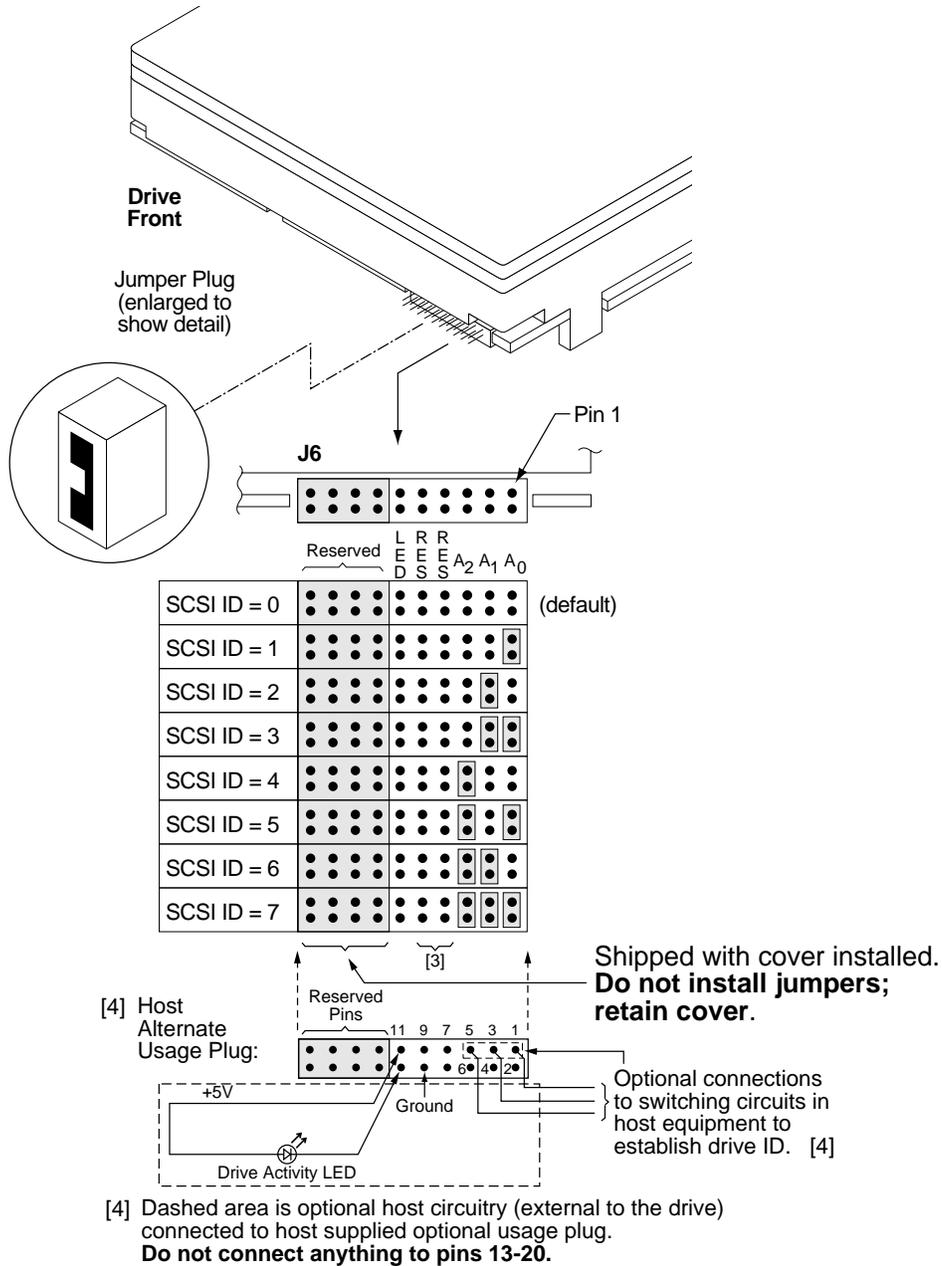
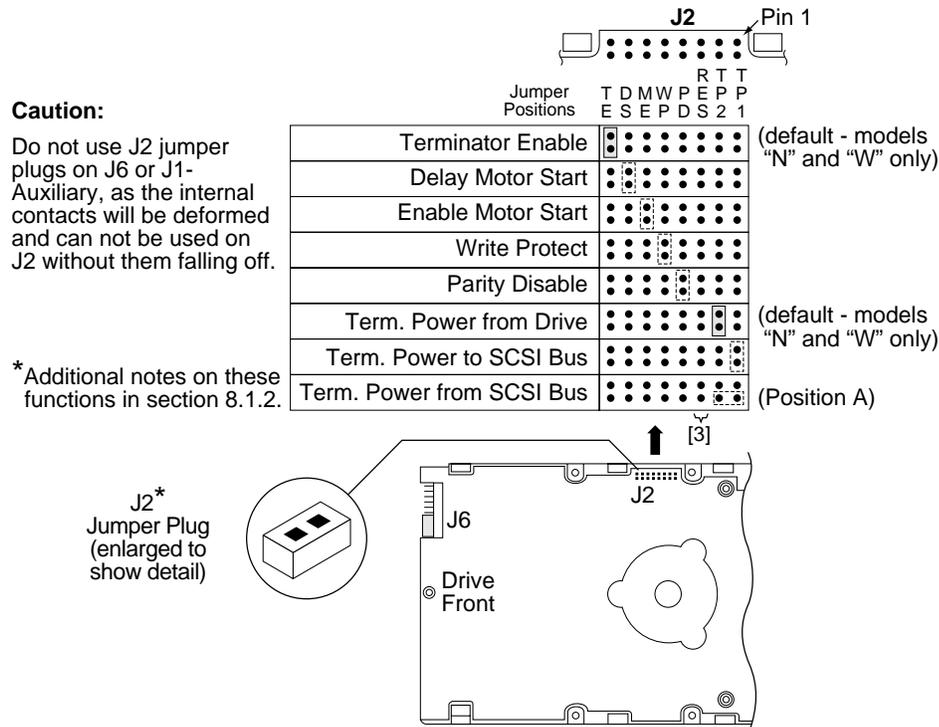

Figure 8. Hawk 4XL family drive ID select header for model "N"
Figure 11. Hawk 4XL family drive option select header for models "N" and "W"
For option jumper locations and definitions refer to Figures 8, 9, 10 and 11. Drive default mode parameters are not normally needed for installation. Refer to Section 9.3.2 for default mode parameters if they are needed.
Figures 8, 9, and 10 show views of the drive ID select jumper connectors. Figure 11 shows the option select jumper connector for all models. Figure 9 shows a rear view of model drives for the purpose of showing J1-auxiliary of the drive. Both J1-auxiliary and J6 have pins for selecting drive ID and for connecting the remote LED cable. Only one or the other should be used, although using both at the same time would not damage the drive. The notes following the figures describe the functions of the various jumper positions on the connectors J2, J1-Auxiliary and J6. Suggested part number for the jumpers used on J2 is Molex 52747-0211(Seagate P/N 77679052). Suggested part number for the jumpers used on J1-Auxiliary and J6 are Method Electronics 861M-202-70 (Seagate part number 15481851). A bag with the two jumper plug types is shipped with standard OEM drives.
Notes for Figures 8 through 11 are in Section 8.1.1.
8.1.1 Notes for Figures 8, 9, 10 and 11.
\*See Figure 11 for pins used for Termpower.